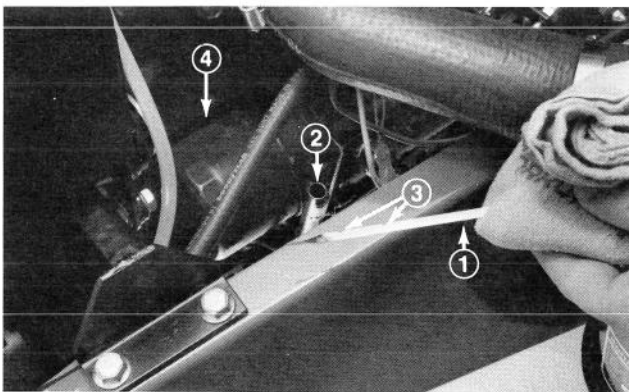
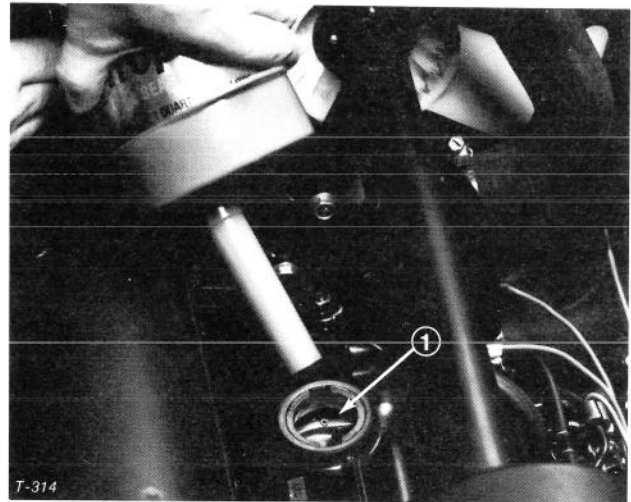

Figure 17
Figure 18
3. Remove dipstick and wipe it with a clean rag (Fig. 17). Push dipstick down into the tube and ensure it is fully seated. Pull dipstick out of the tube and check level of oil. If oil level is low, remove filler cap (Fig. 18) and add enough oil to raise level to top notch on dipstick (Fig. 17). DO NOT OVERFILL.